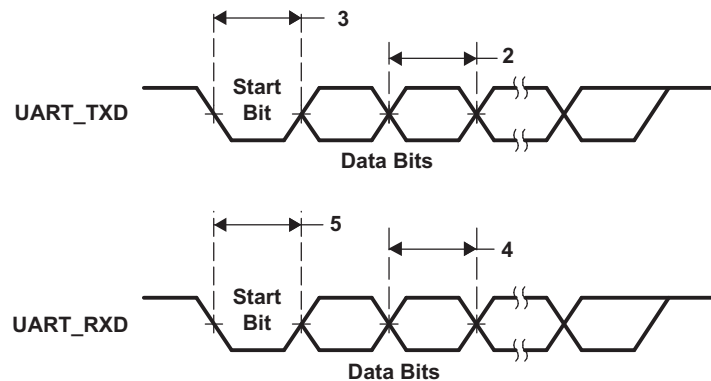

Figure 6-22. UART Transmit/Receive Timing
Table 6-20. Timing Requirements for UART Receive⁽¹⁾⁽²⁾ (see Figure 6-22)
- (1) U = UART baud time = 1/programmed baud rate.
(2) These parametric values are measured at DV_{DDIO} = 3.3 V, 2.75 V, and 2.5 V
Table 6-21. Switching Characteristics Over Recommended Operating Conditions for UART Transmit^{(1) (2)} (see Figure 6-22)